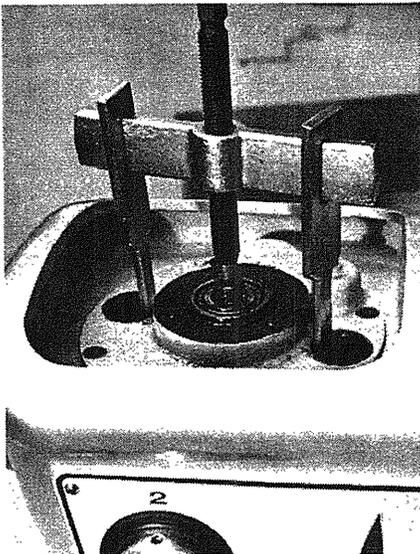

Fig. 3-5
- E. To remove the bearing carrier use a gear puller as shown in (Fig. 3-5). A light tapping in an upward motion around the perimeter of the carrier with a plastic or rubber mallet will help to break the cover loose. When the carrier has cleared the dowel pins, you can lift the carrier out of the machine with your fingers in the openings for the friction plugs.